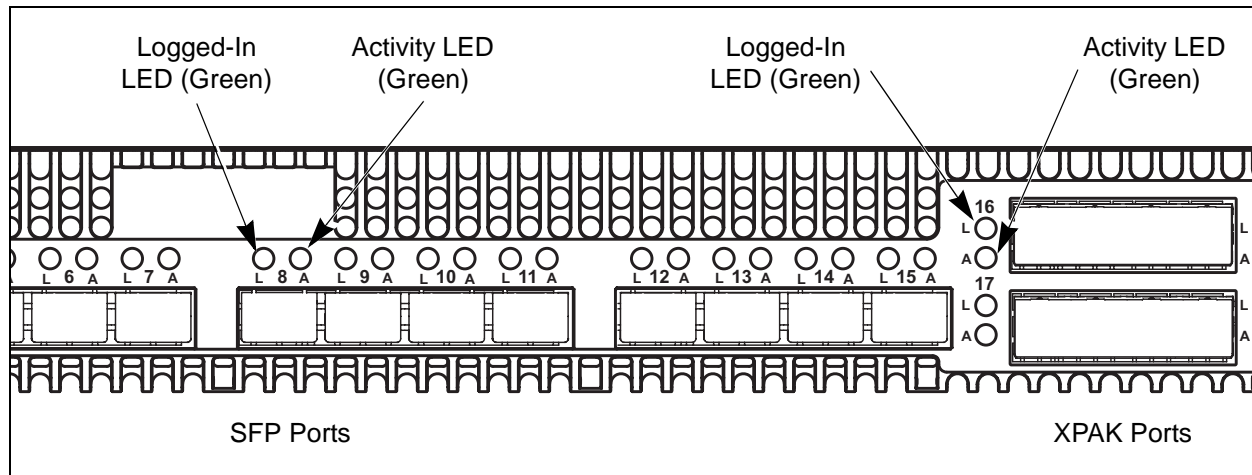

Figure 2-4 Port LEDs
Each port has its own Logged-In LED (L) and Activity LED (A) as shown in Figure 2-4.